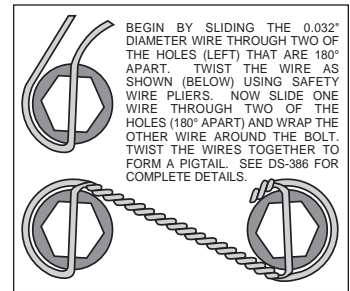

Figure 5. Safety Wire Diagram
- The hat/rotor assembly (4) has been pre-assembled at the factory using red *Loctite*® 271 on the mounting bolts and torqued to specification. For an added measure of security, the bolts may be safety wired using standard 0.032 inch diameter stainless steel safety wire as shown in Figure 5. Please refer to Wilwood's data sheet DS-386 (available at www.wilwood.com/Pdf/DataSheets/ds386.pdf) for complete safety wire installation instructions.